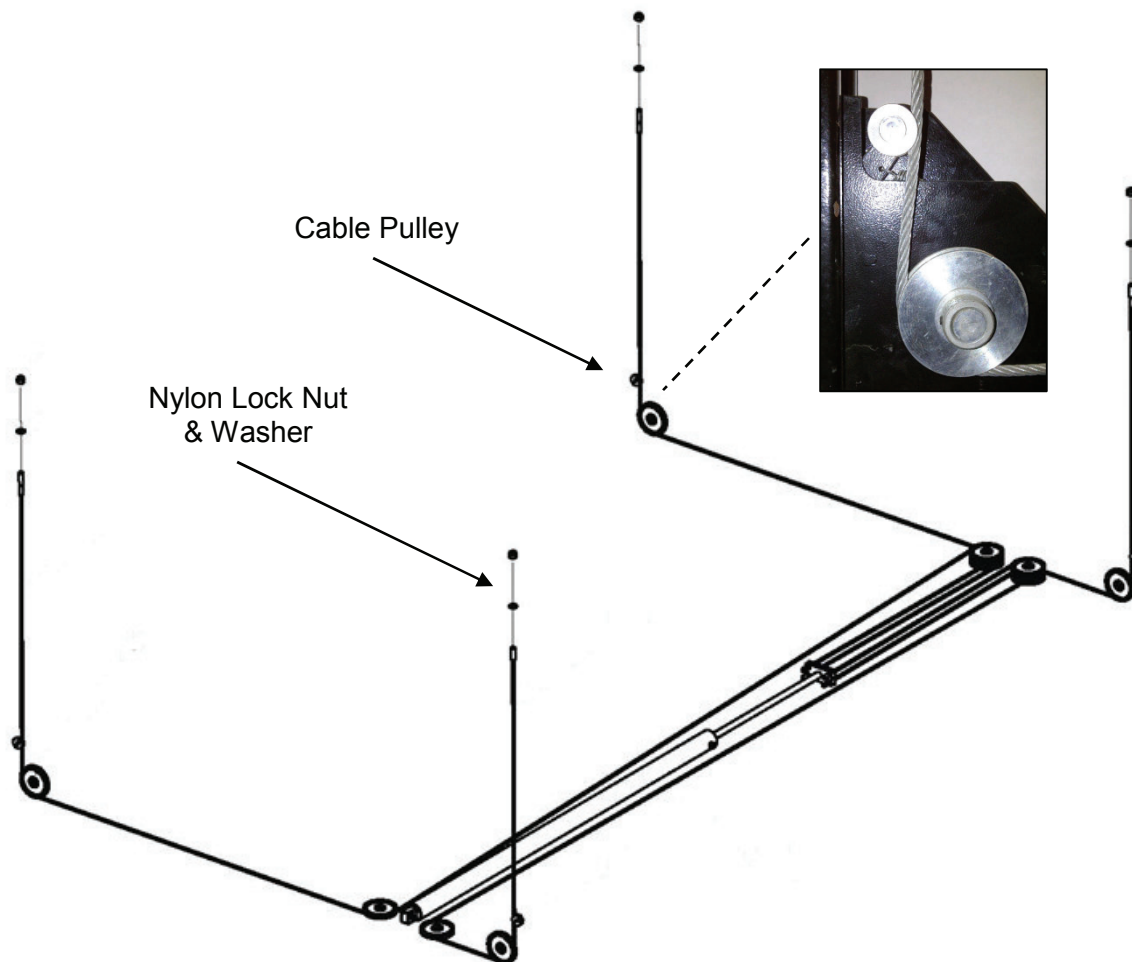

Fig. 6
17. Pull the slack for each Cable from the corner ends of the Mainside Runway and route the appropriate Cable(s) to each Column Top Caps, while ensuring that the Crossbeam's Cable Pulley is between the Cable and the Lock Ladder as shown in Fig.6. This will allow the secondary Slack Cable Lock to function properly. See Fig.6 below for Cable routing installation.
27. Raise lift off all locks until cables are supporting the lift. Adjust the Cable's Nylon Lock Nut (#89) as shown in Fig 6, located on the top of each post until lift is level on crossbeams and runways. This will ensure the lift travels up and down level.